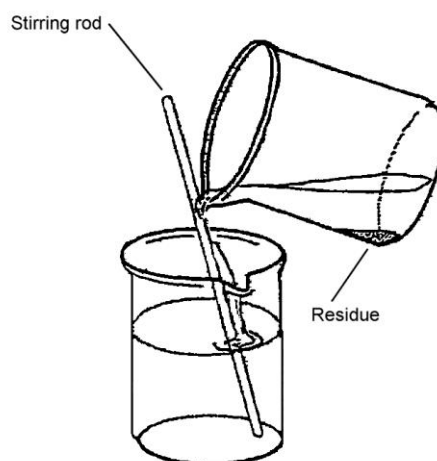

FIGURE 2. Decanting a liquid
1. The major portion of the liquid is decanted, or separated from the precipitate, by carefully pouring off the liquid, leaving the solid material. To avoid splashing and to maintain control, the liquid is poured down a stirring rod, as shown in FIGURE 2.